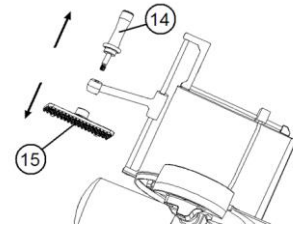

FIG 7. DISASSEMBLY HANDTRIP
1. Hold the handgrip (15) and turn the handgrip knob (14) counterclockwise to remove them. (See figure 7).
2. Turn the carriage knob (1) counterclockwise and remove the carriage (3) from the support. Follow the steps 1, 2 and 3 shown in the figure (8).